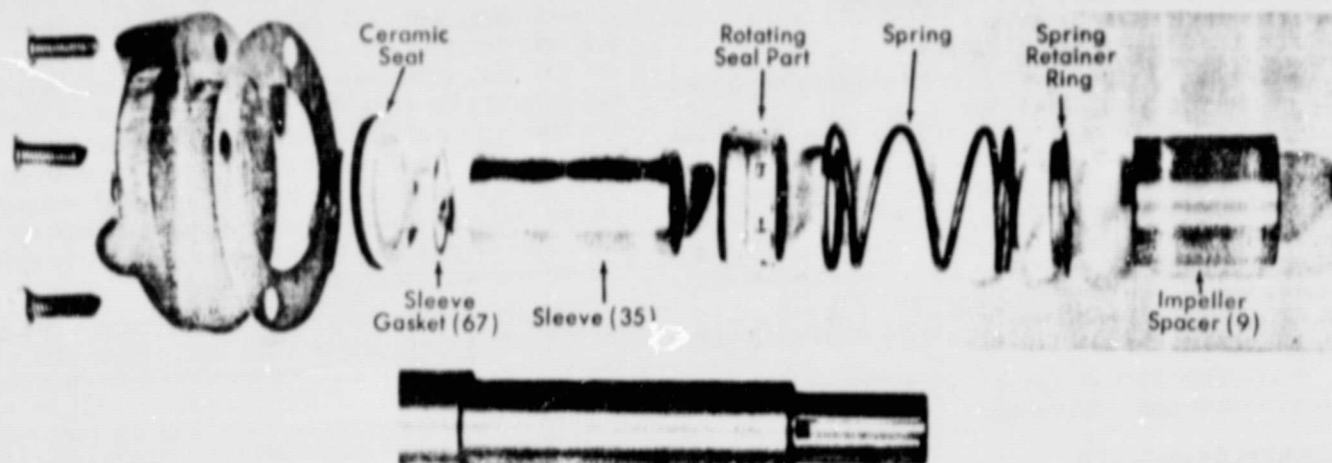

Fig. 8—Seal Arrangement on Shaft
Apply some grease or oil to exposed shaft end (42). Slide sleeve gasket (67) and sleeve (35) over shaft. Chamfered side of sleeve should point toward impeller end (Fig.8). Place cap gasket (28) on seat retainer cap (32) and accurately line up bolt holes. Two drops of oil or grease on the contact face of the cap and gasket will hold these parts temporarily together. Slide seal retainer cap (32) with seal seat and cap gasket (28) over the sleeve (35) as far as it will go. Be careful not to damage seal seat.
Wet I.D. of rotating seal part (29 rubber) with water. Slide it, carbon washer facing seal seat, over sleeve. (35) Push seal (29) all the way back until it gently touches the seat. Slide the seal spring over the sleeve followed by the spring retainer ring with the raised portion toward the spring (Fig.8).